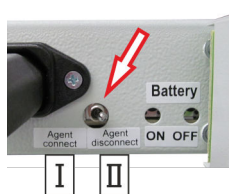

Fig. 76: Blocking switch
- Block all networked systems using the blocking switch (Fig. 76 /arrow) (switch the blocking switch to "Agent disconnect [blocked]" (Fig. 76 / II)) prior to performing maintenance work.